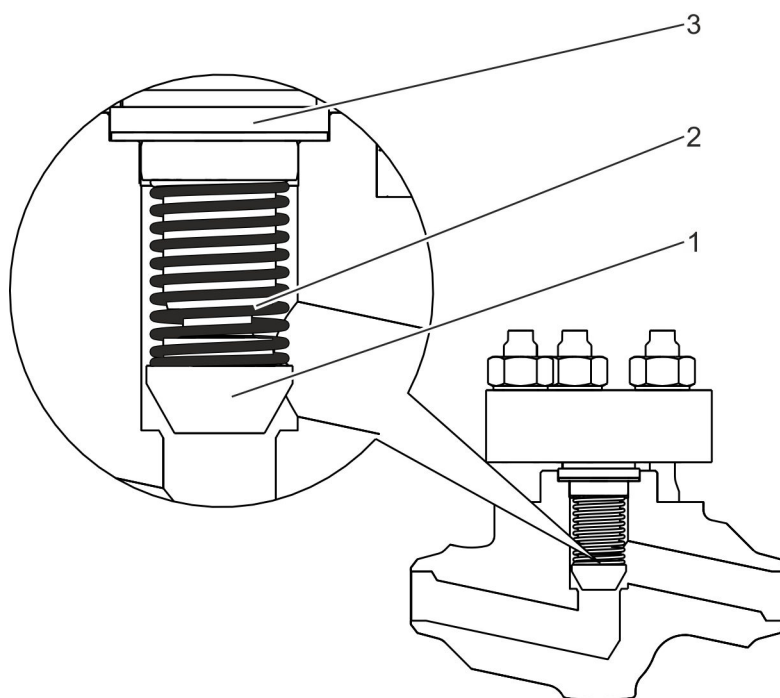

Fig. 5: Shut-off element
- the check valve disc (Fig. 5/1),
- the compression spring (Fig. 5/2) and
- the guide bushing (Fig. 5/3).